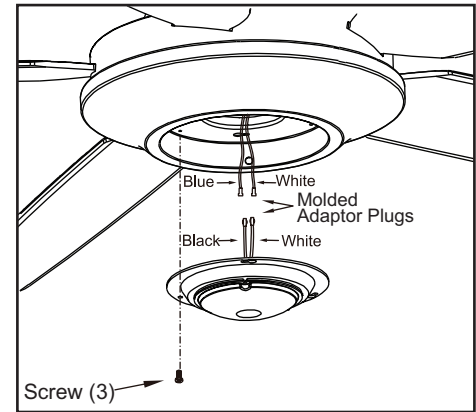

Figure 15
3. Remove one screw from the light kit pan and loosen, but do not remove the other two screws. Connect the wires from the light kit fitter assembly to the wires from the fan motor assembly by connecting the molded adaptor plugs together. Carefully tuck all wires and splices into the switch cap. (Figure 15)
4. Push the light kit fitter assembly up so that the two loosened screw heads fit into the keyhole slots. Turn the light kit fitter assembly clockwise, tightened the screws. Re-install the screw that was removed in step 3 and tighten firmly. (Figure 15)